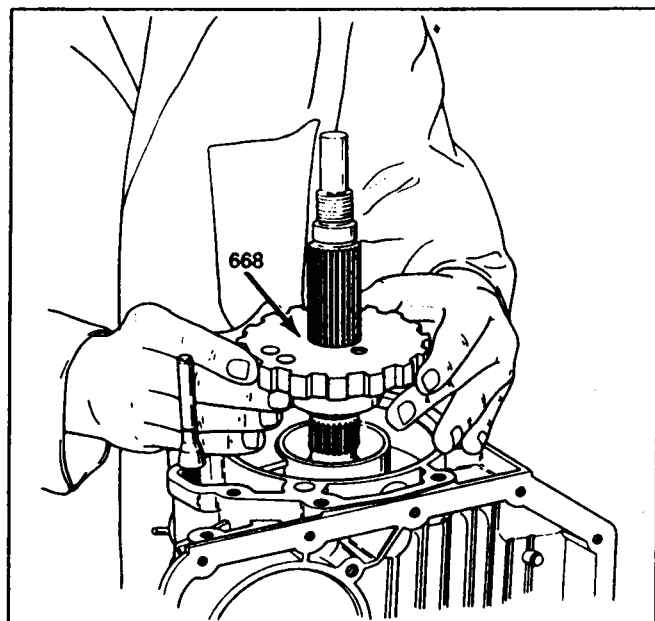

Figure 28
11. Remove the parking lock wheel from the output shaft (See Figure 28).